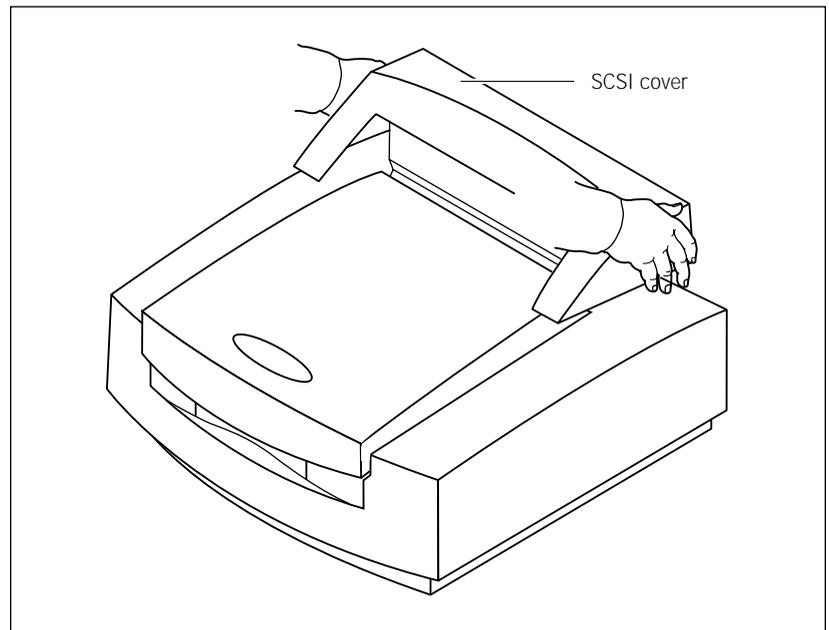

Figure 10-4. Removing the SCSI cover over the SCSI ports.
2. Grasp the two forward extensions of the SCSI cover (figure 10-4) and pull upward to remove the cover. The SCSI ports are located near the back of the Storm instrument (figure 10-3).